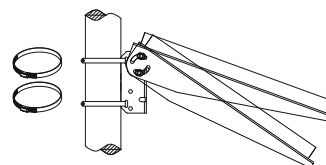

figure 2
Step4. For pole mounting, use hose clamps(not included) to fix the PV module and mount assembly securely to the pole. **See figure 2**. The U-Bolts, Steel Clamps and Molly Bolts are not included in the kit